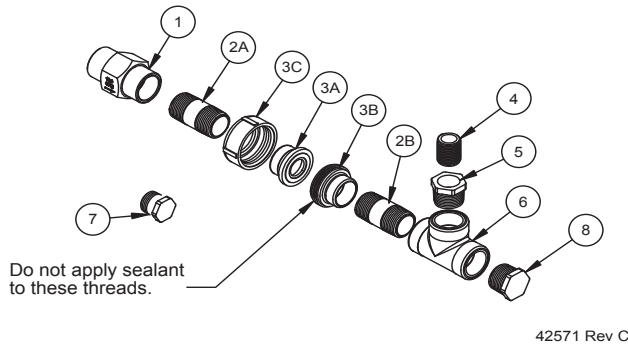

Figure 5 Inlet Fitting Assembly
1. Install $\frac{3}{4}$ " NPT 2" long nipple (Item 2A in Figure 5 above) into outlet of 10 gpm (37.8 Lpm) flow control (Item 1). The flow direction is indicated on the body of the flow control.